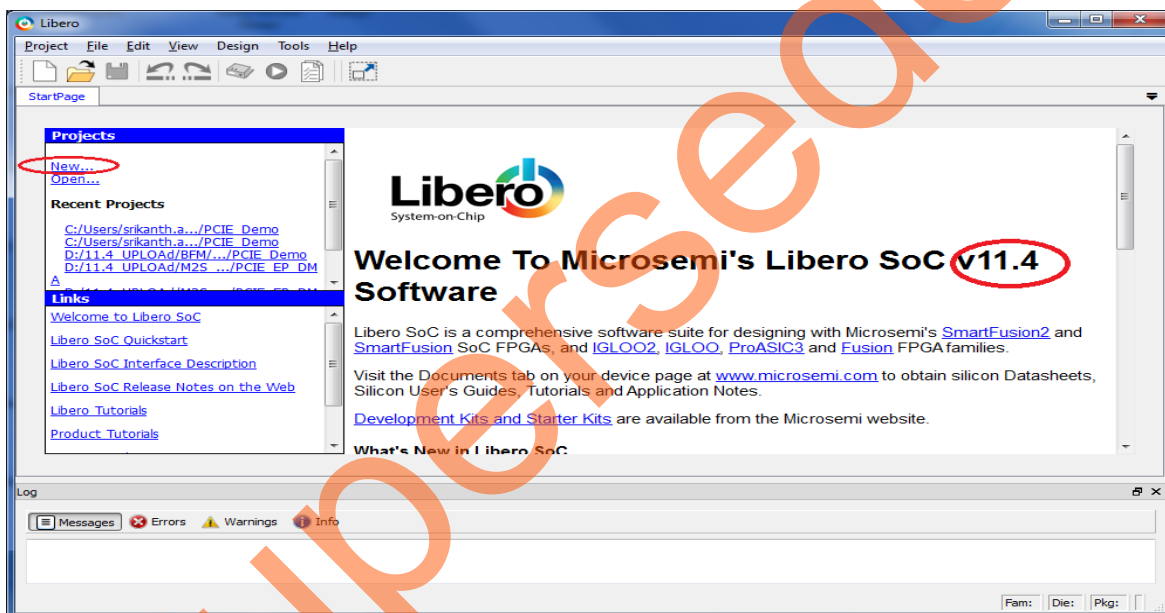
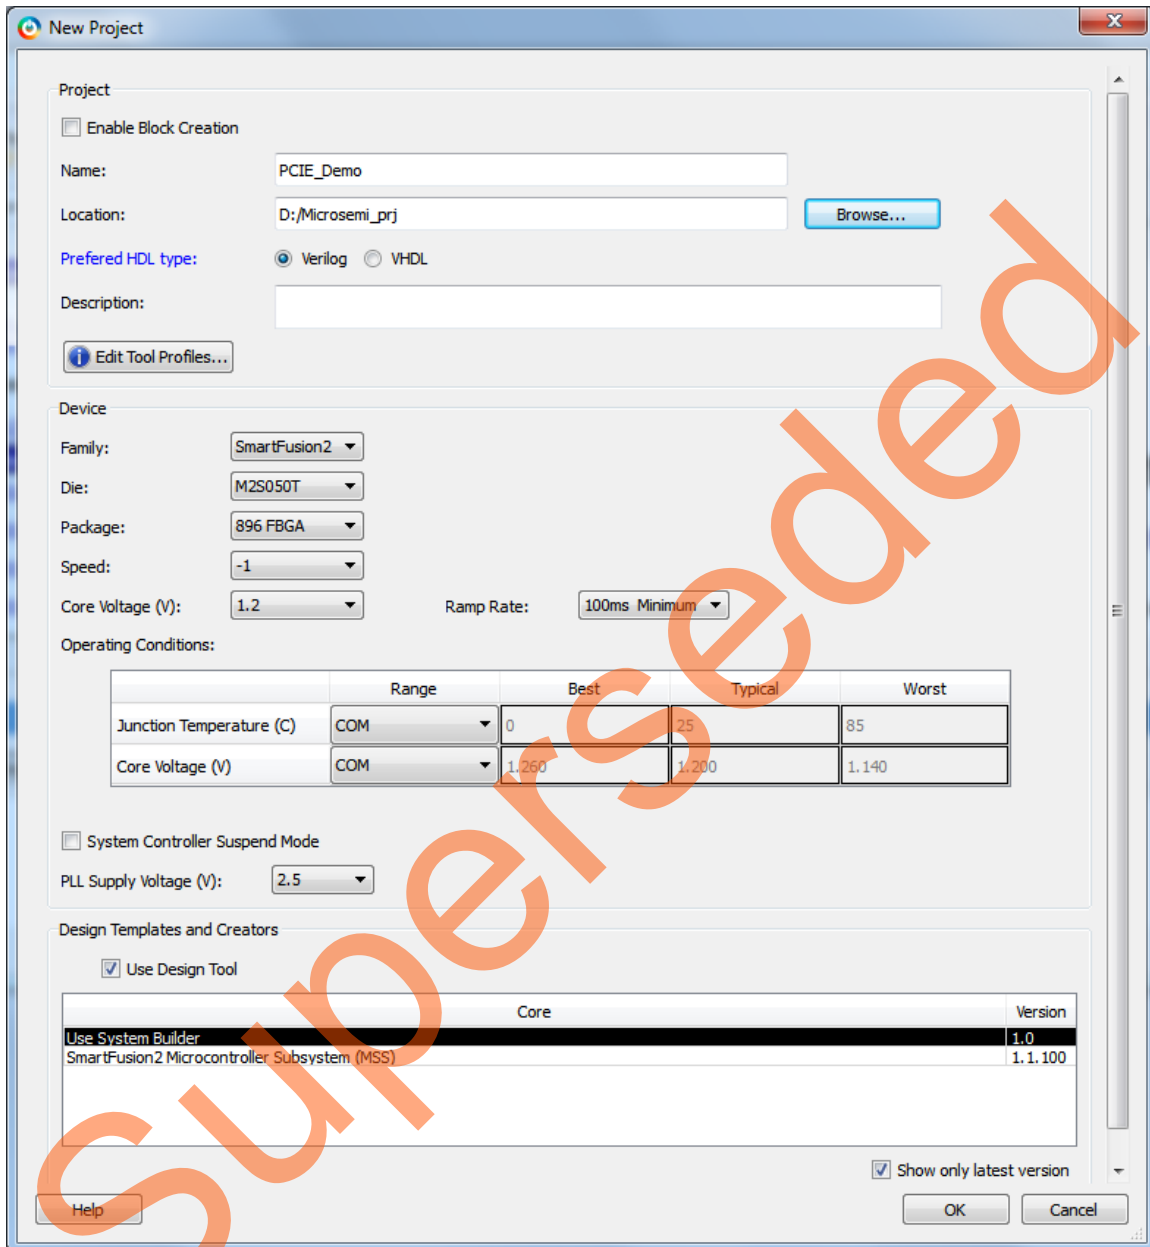

Figure 3 • Libero SoC v 11.4 Project Manager
Figure 4 • Libero SoC v 11.4 New Project Dialog Box
1. Click **Start > Programs > Microsemi Libero SoC v11.4 > Libero SoC v11.4**, or click the shortcut on your desktop. The Libero SoC v11.4 Project Manager is displayed as shown in Figure 3.
2. Create a new project by selecting **New** on the Start Page tab (highlighted in Figure 3), or by clicking **Project > New Project** from the Libero SoC menu. Enter the information as required for the new project and the Device in the **New Project** dialog box as shown in Figure 4 on page 7.
3. Select **Use Design Tool** and **Use System Builder** in the Design Templates and Creators section of the New Project window as shown in Figure 4.